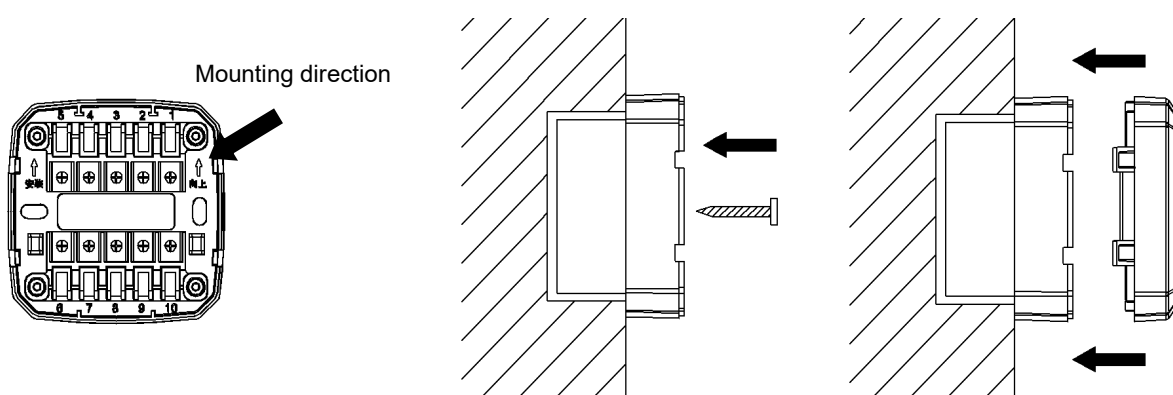

Fig.2
4. Isolate interface Mounting showing in Fig.2